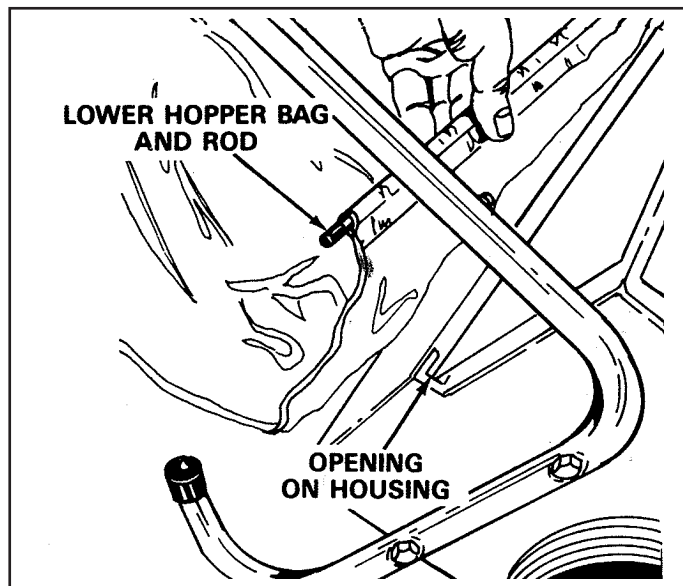

FIGURE 9
12. Place the lower hopper bag and bag rod into the opening on the sweeper housing. See figure 9.